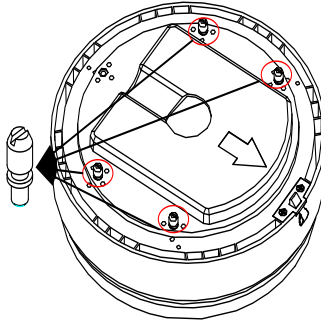

Figure 1-40 Install the bolts
3. Install 4 bolts to the screw holes as shown in Figure 1-40.